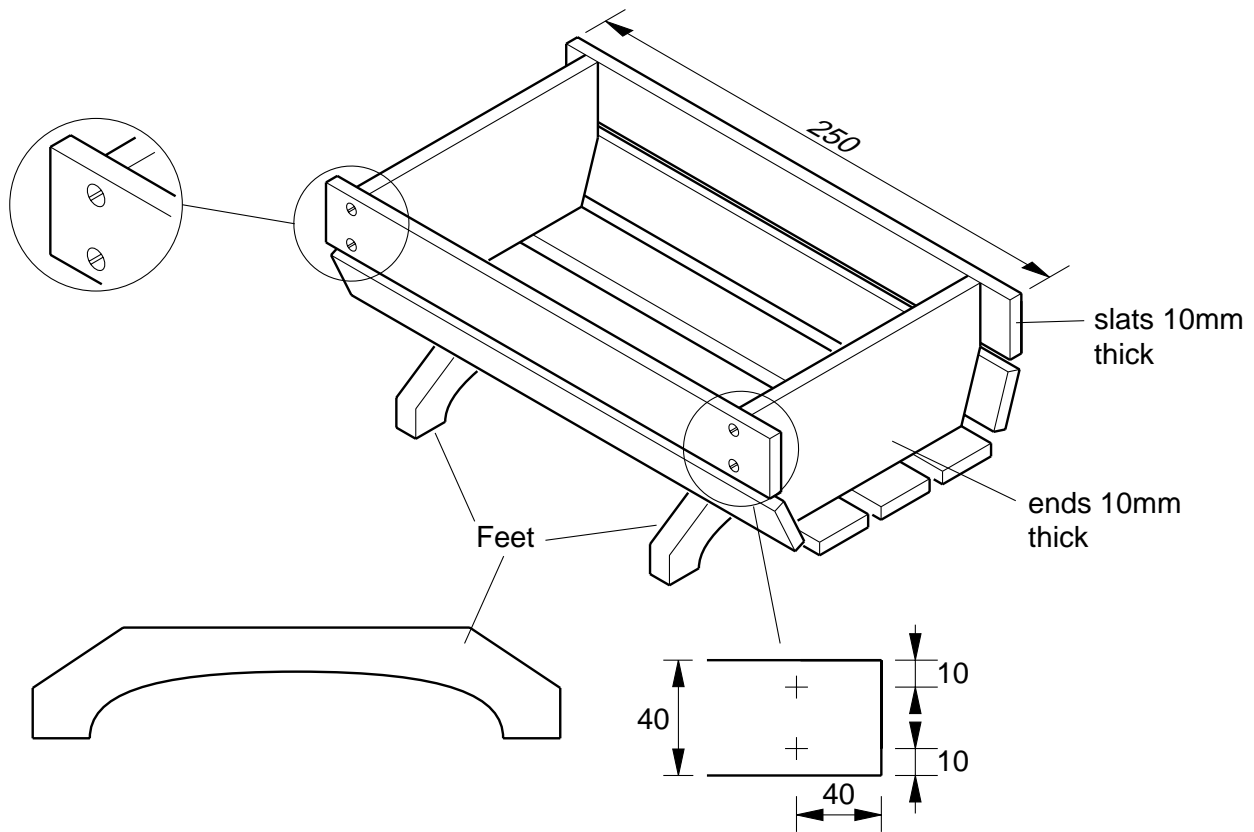

Fig. 5
- 7 Fig. 5 shows a mass-produced fruit basket made from wood. The ends, slats and feet have been shaped and are ready to be assembled using glue and screws.